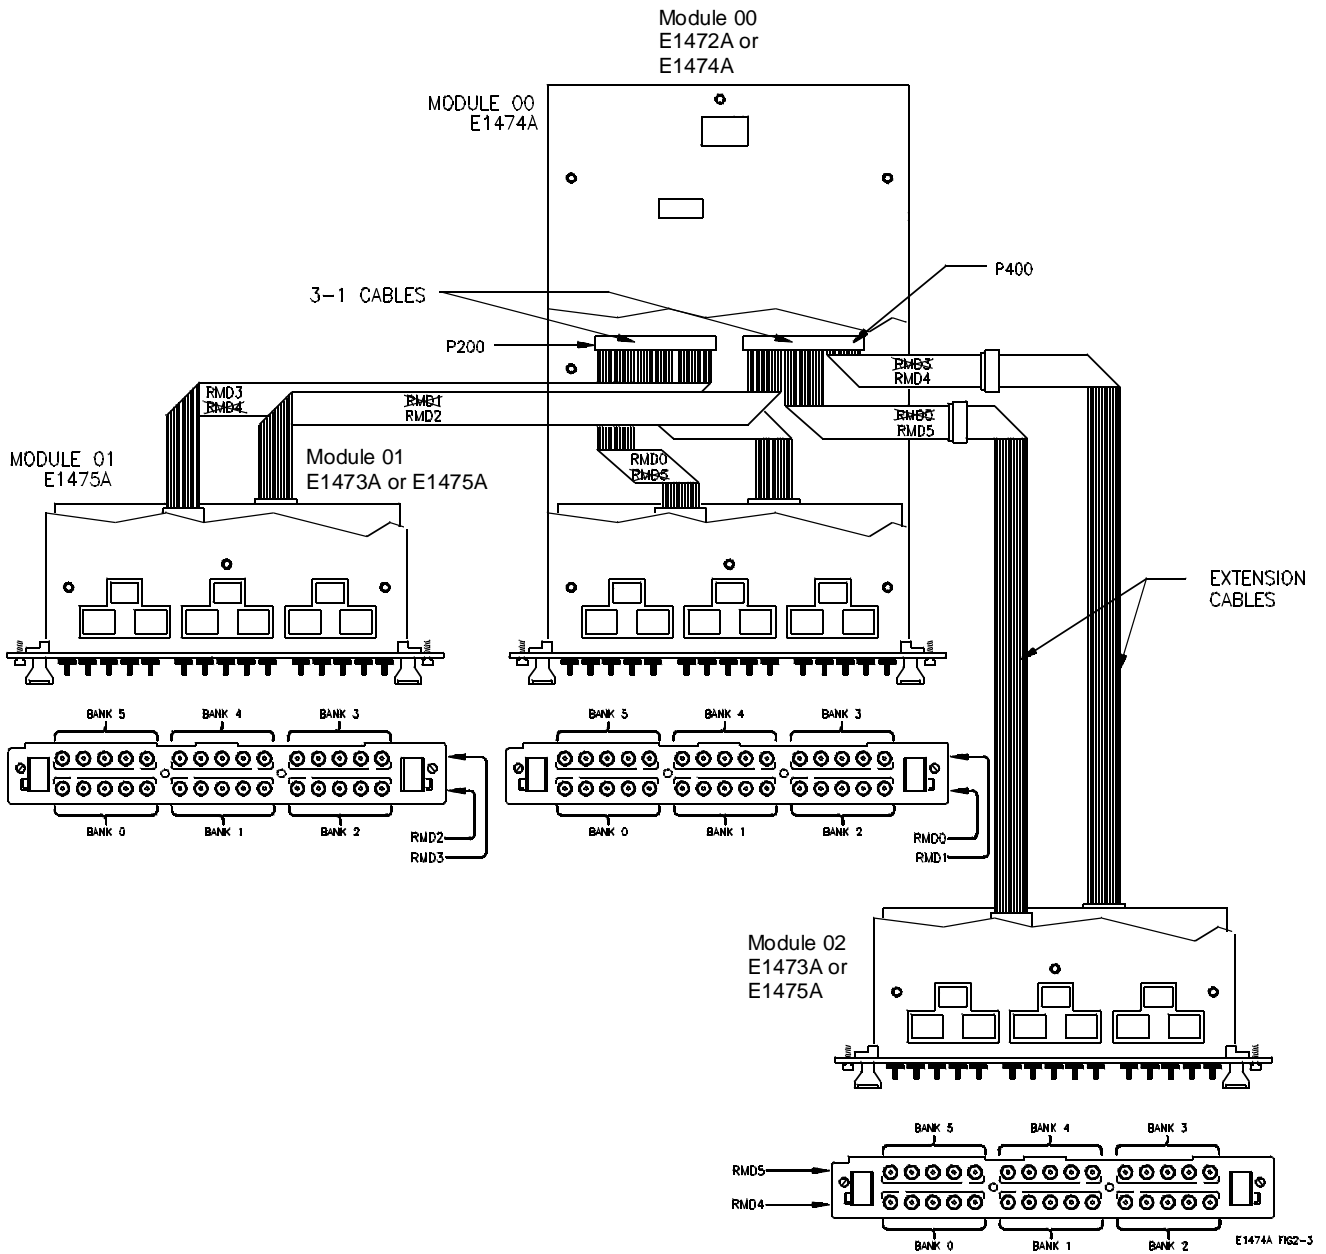

Figure 2-3. Expander Module Connection
Each RF Multiplexer module is capable of controlling up to two Expander modules, providing a total of eighteen (4:1) banks. The Expander modules can be physically located in the C-Size mainframe next to the RF Multiplexer, or up to eight meters away using extension cables. Use Figure 2-3 and the procedure below to connect the Expander Modules.
3. Mark the 3-1 cables as shown in Figure 2-3 (cross-out unused RMD number).
5. If the Expander module is physically located (up to eight meters) away from the mainframe, you can daisy chain up to 10 extender cables (HP P/N E1473-80002) for each RMD connection (see Figure 2-3, module 02).